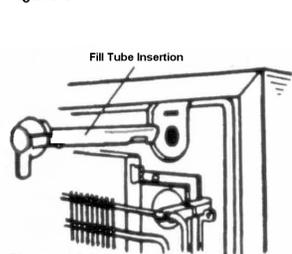
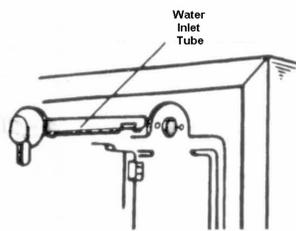

Figure 10A
Figure 10B
7. If there is not an existing inlet tube. Push water inlet tube through the installation hole in the back of the unit, see Figure 10A for external condenser models, see Figure 10B for internal condenser models. Using a circular motion as you push through the insulated area between the case and the inner liner, will make this easier.